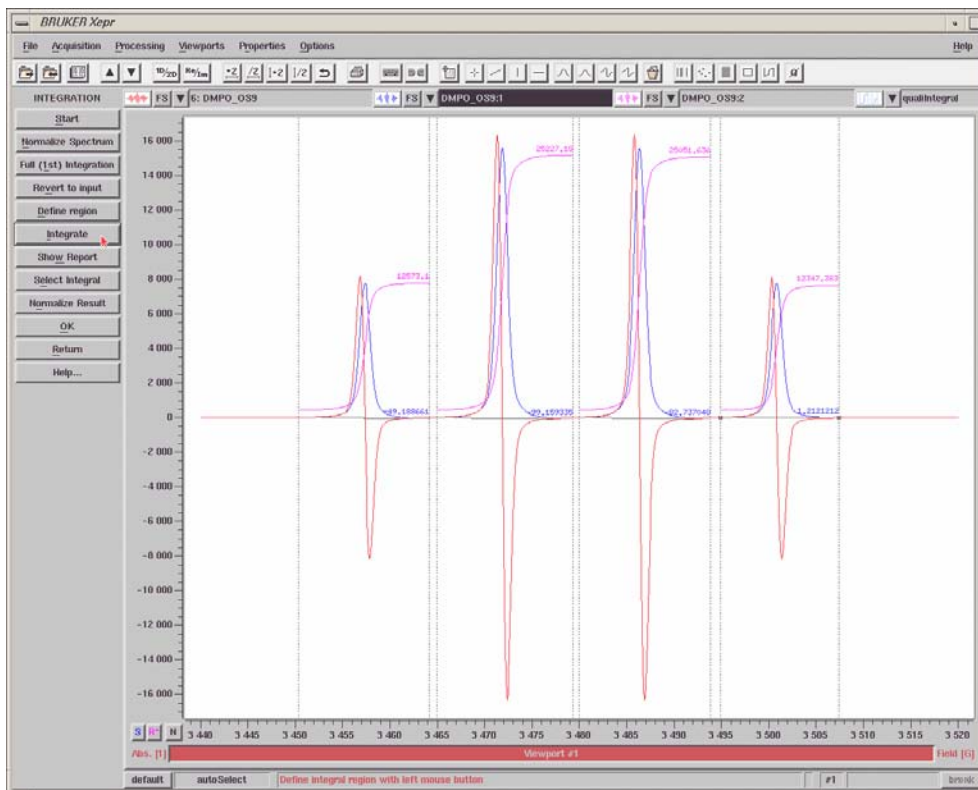

Figure 6-43 Double integration of individual peaks.
9. **Double integrate the individual peaks.** You can double integrate individual peaks as well. Click <Result> in the **Secondary Dataset List** and activate the **Secondary** dataset. Adjust each qualifier to fit the slope and offset of the baseline in each area. Click **Integral**. The double integrals of all the regions you selected will be displayed in the viewport. (See Figure 6-43.)